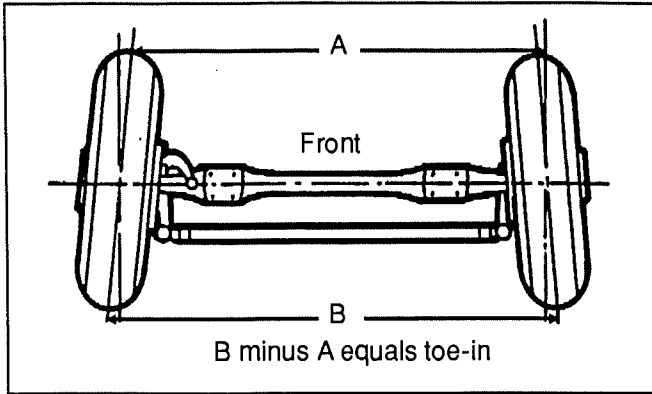

FIG. 4
9. Read toe-in (or toe-out) from scale (see figure 4).
10. These two measurements must be taken at the same height above the floor. Toe-in (or toe-out) is the difference between the measurements taken at the front and rear of the tires (see figure 4). The toe-in measurement should be  $3/32'' \pm 1/32''$  ( $2,38 \text{ mm} \pm 0,8 \text{ mm}$ ).